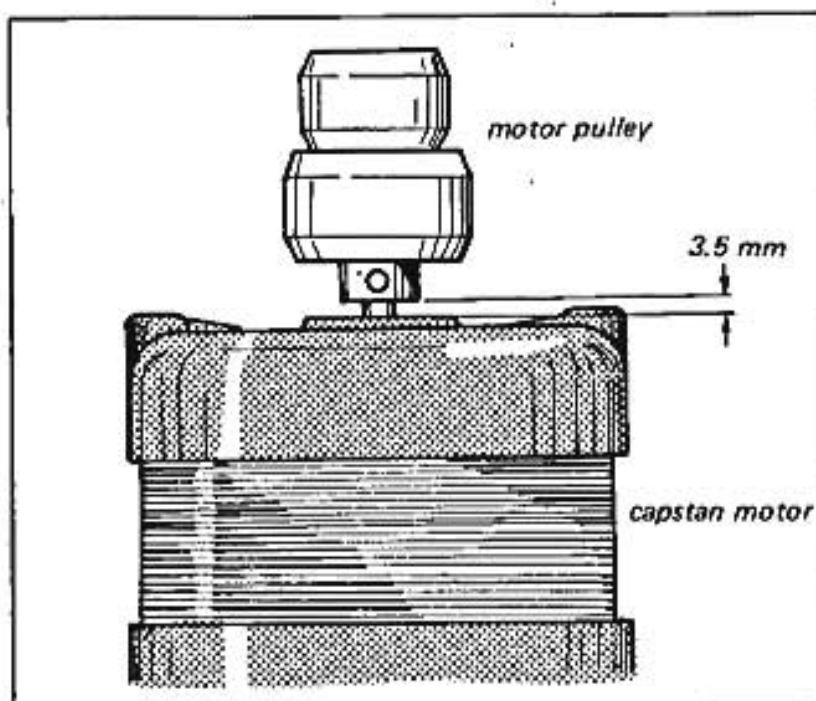

Fig. 10-5 Proper clearance between the motor pulley and the capstan motor
- 1) Install the motor pulley ㉑ to the capstan motor ⑮, with a clearance of 3.5 mm between them as in Fig. 10-5, by tightening the two